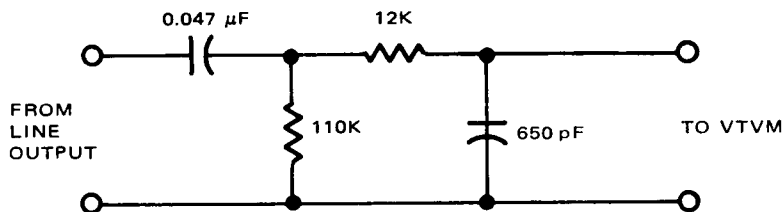

Figure 5-18. 30-Hz to 18-kHz Band Limiting Filter
- a. Connect a band-limiting filter (Figure 5-18) between the line output and an ac vtvm.
- a. Connect a band-limiting filter (Figure 5-18) between the line output and an ac vtm.